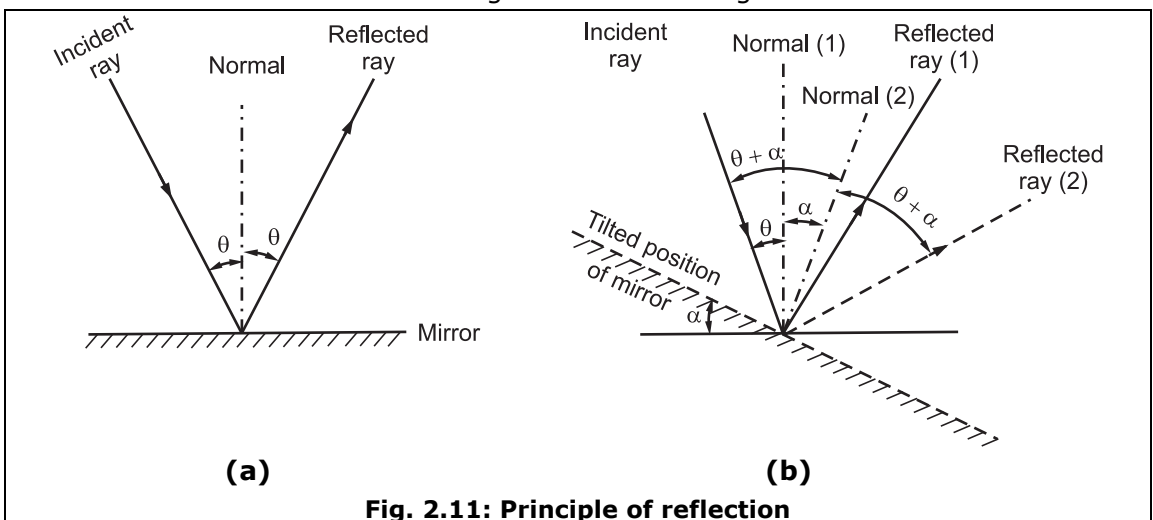

Fig. 2.11: Principle of reflection
- According to the law of reflection, the angles of incidence and reflection are equal, when the reflection occurs on a plane surface (mirror), i.e. the angle between incident ray and normal (1) to the mirror surface (θ) is equal to angle of reflected ray and normal (1) to the mirror surface (θ). And total angle between incident ray and reflected ray is 2θ . Refer Fig. 2.11 (a).
- Now, if the reflecting surface (mirror) is tilted through an angle α , then normal (2) also moves through this angle α . Then, as shown in Fig. 2.11 (b), the angle between incident ray and normal (2) becomes $(\theta + \alpha)$. According to law of reflection, the angle between reflected ray (2) and normal (2) should be equal to angle between incident ray and normal (2). Therefore, angle between reflected ray (2) and normal (2) should also be $(\theta + \alpha)$. Thus, total angle between incident ray and reflected ray (2) will be $2 \times (\theta + \alpha)$, i.e. $(2\theta + 2\alpha)$. Thus, there is an increase of 2α in the total angle and double magnification is obtained.